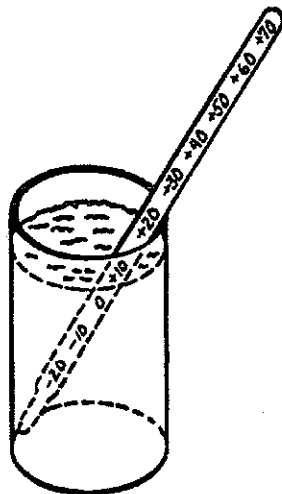

Figure 5
- b. In refrigerator, place a glass of water holding thermometer in center of compartment for 5 to 8 hours. See Figure 5. If temperature is not between 38°F and 40°F (3°C to 4°C), adjust control one number at a time and check again after 5 to 8 hours.